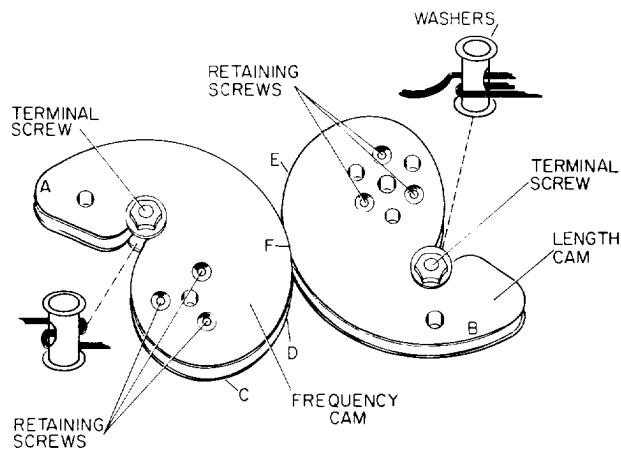

Figure 5-7. Cam Assembly
For easier access to the cams, remove the screws holding the high voltage circuit board and swing the board out of the way. Use Figures 5-7 and 5-8 as a guide and proceed as follows:
k. Slide cable through one terminal screw so that cable is oriented to terminal screw as shown in Figure 5-7 for the Frequency Cam, and install terminal screws on Frequency Cam.
Each cam as shown in Figure 5-7 has two lips along which the cable should travel: one cable must travel along the upper lip of both cams and one cable must travel along the lower lip of both cams.
t. Slide cable ends through second terminal screw so that cable is oriented to terminal screw as shown in Figure 5-7 for the Length Cam.
w. Turn FREQUENCY (MC) knob to match Frequency Cam to pencil mark made in step e; the other marks made should match appropriately.